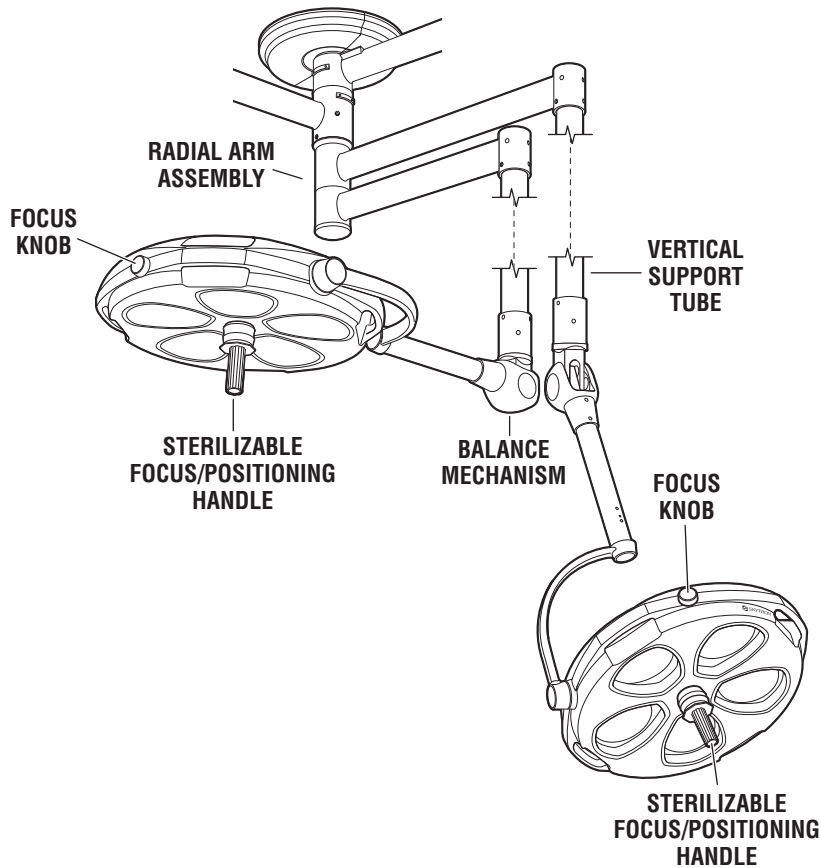

Figure 3. Dual Lighthouse Fixture
1. Position the lighthouses as required by grasping the lighthouse positioning handles and moving the lighthouse to the desired position. See figure 3.